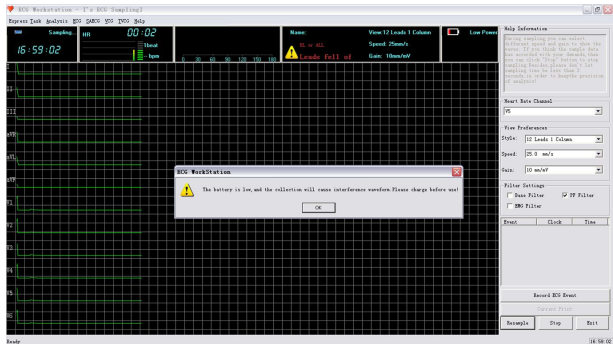
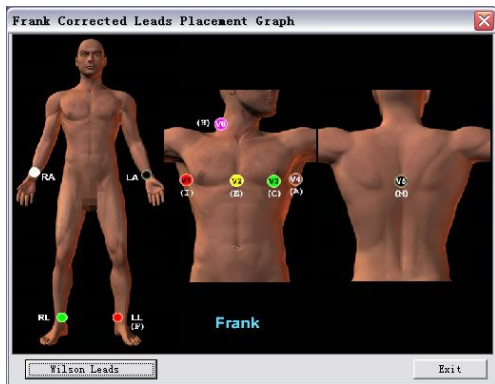
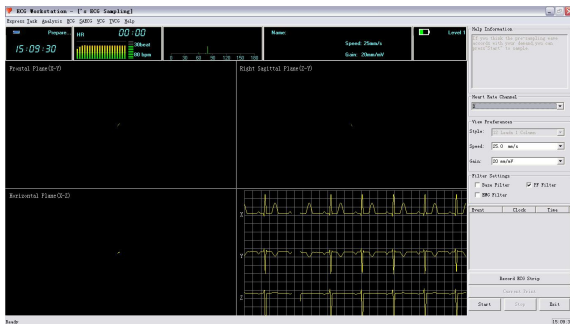

Figure 28
Figure 29
Figure 30
process, the prompt interface is shown in Figure 28.
- ◆ If both "Wilson Type 12 Leads" and "Frank 3Leads" are selected, systems will pop up dialog (As **Figure 28**) after clicking "close" button in **Figure 29**.
Place the electrodes according to Figure 29, then click "Start" button to enter the interface shown as Figure 30.